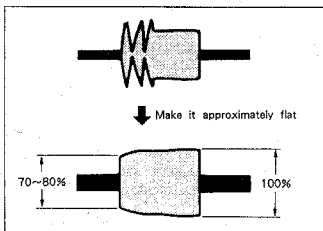

Fig. 7-70.
- 3) Slowly rotate the No.2 guide clockwise to make the entrance side waveform approximately flat. (Fig. 7-70.)